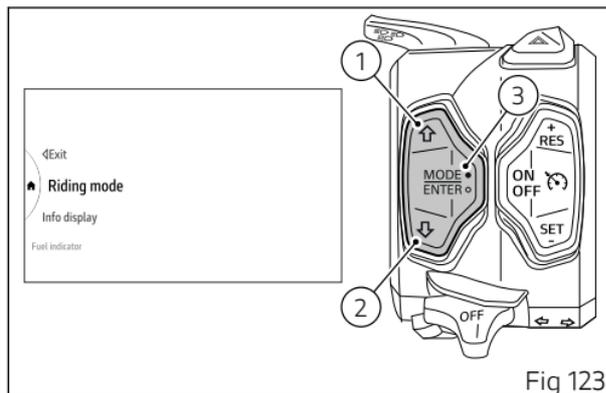

Fig 123
Use buttons (1) and (2) (Fig 123) to select the Riding mode you wish to customise and press ENTER.